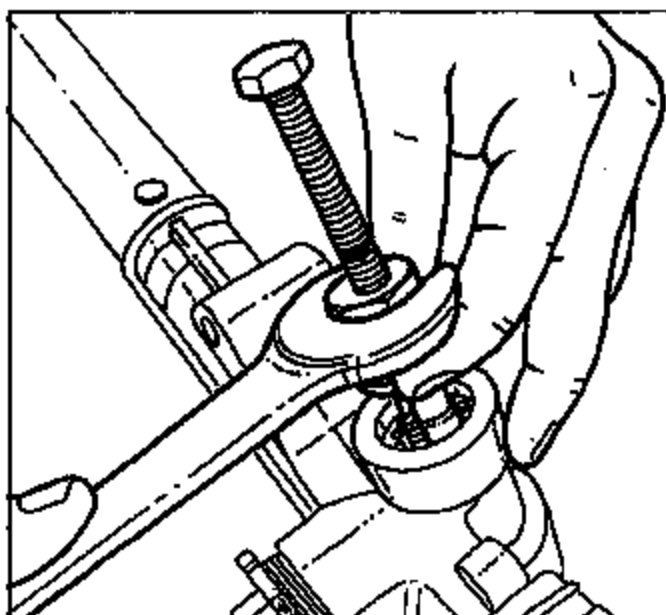

Figure 4
- STEP 7** With the forcing screw backed off, screw in the center nut and tighten until the nut bottoms against the 2 legged puller. (See Fig. 4)